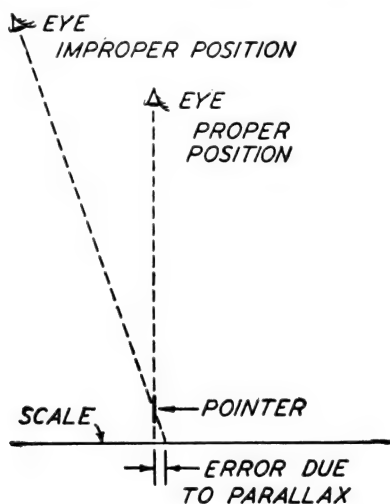

Fig. 29. Method of Reading Meters Correctly
**Parallax.** In some instruments there is a strip of mirror, Fig. 3, placed below the pointer, and at the inner edge of the scale. These instruments are intended for accurate reading and should be read by looking directly down on the instrument, placing the eye so that the image of the pointer is hidden by the point itself. The reading can then be taken without the error due to parallax. Fig. 29 shows what is meant by the parallax error. An easy experiment to prove this error may be made by using a clock. Stand directly in front of the clock when the minute hand is near the hour six or twelve and note the hand's position with reference to the dial. Now walk to one side and again note the time indicated. You will see that the correct time is only to be read when standing directly in front of the clock.